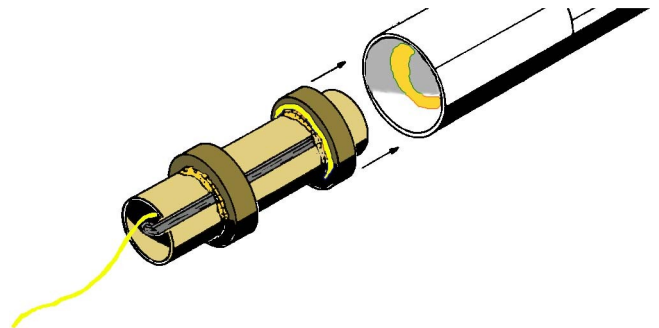

Figure 6
- Step 9** Apply a generous bead of glue around the inside of the ST-845 booster body tube, about 1" up from the bottom edge. Spread this around with a soft-bristled hobby brush. Insert the booster engine mount (the one without the Kevlar thread) into the tube from this end, in the manner shown in Fig. 6, and push with one continuous motion until the bottom of the motor tube is even with the bottom of the booster body. Do not stop pushing until the tubes are level, otherwise the glue will "freeze" the mount in the wrong place. Set this aside to dry in a vertical attitude, top-edge-up.